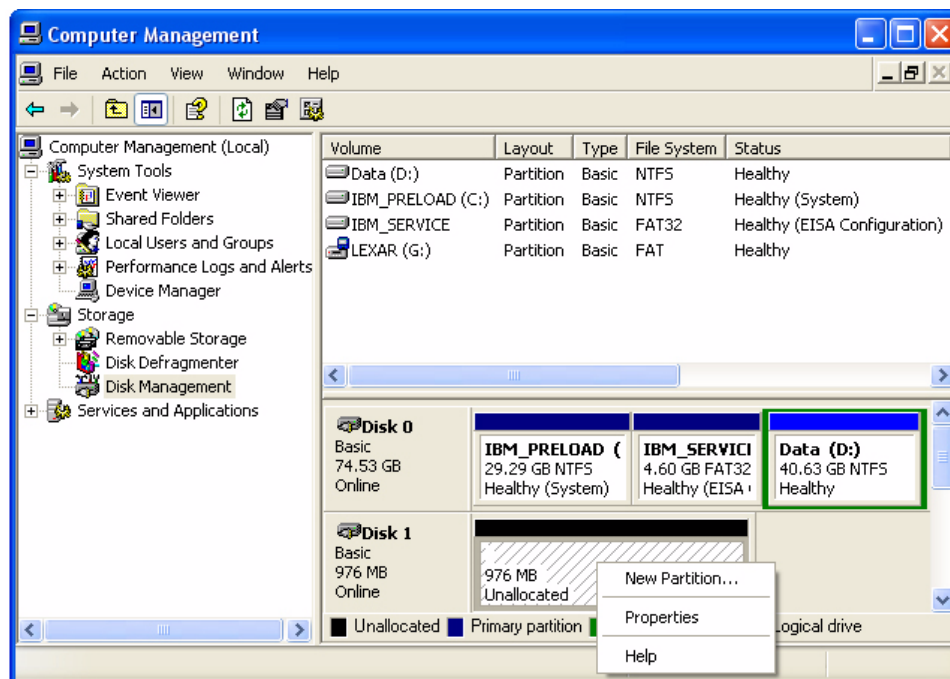

Figure 7: OS-Partitioned Drive
1. Right-click on the **NANDrive** icon in the right-hand pane. See Figure 7.